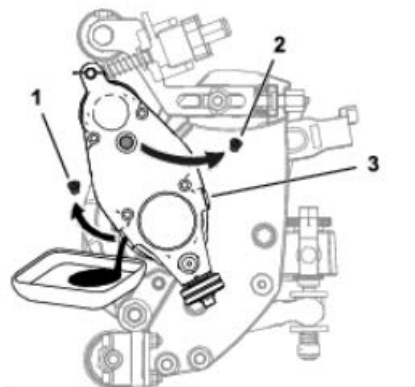

Figure 1
137-0872	Tool-Syringe, (aids in accurately filling the Universal Groomer). (Figure 1, Item 1)
5. Tip the cutting unit vertically until the drain port is at the bottom to ensure complete drainage. (Figure 1)
6. Remove the drain plug from the drain port. (Figure 1)
7. Remove the fill plug from the fill port. (Figure 1)
8. Loosen the air vent. (Figure 1)
2. Remove the drain/fill plug and drain the oil from the gear box. (Figure 1)